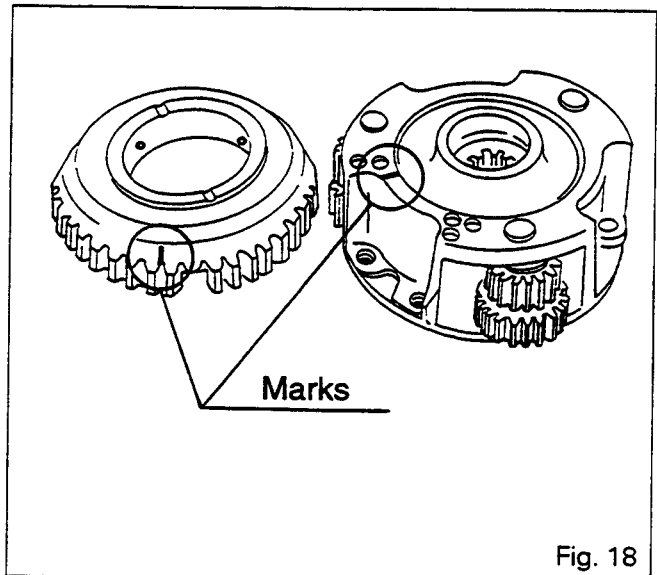

Fig. 18
N.B. : Position the two covers so that the balancing marks (milled grooves or paint lines) are as far away from each other as possible (Fig. 18).
52. Refit bolts (3). Bolts must be tightened to a torque of 10 - 14 Nm.
- that discs (42) and (45) are not compressed
55. Fit planetary carrier assembly (50) to shaft (5).
56. Fit Belleville spring disc (18).
57. Fit pressure plate (20) into housing (13).
58. Engage friction disc (21) onto the planetary carrier assembly.